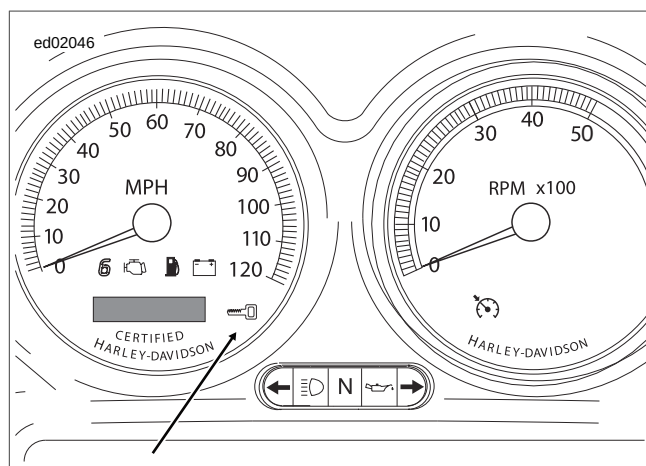

Figure E-5. Security Lamp (Key Icon)
- **Security lamp:** See Figure E-5. A lamp within the speedometer face tells the rider if the system is armed or disarmed.